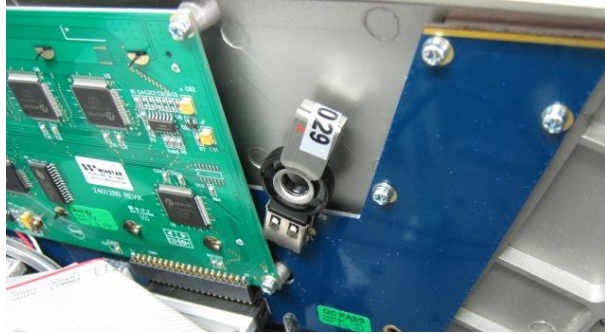

Figure 25 – Installation of USB Memory Stick
1. Refer to Figure 25. Open the lid and ensure the USB memory stick is installed.
7. Refer to Figure 25. Remove the USB memory stick and pack with instrument.